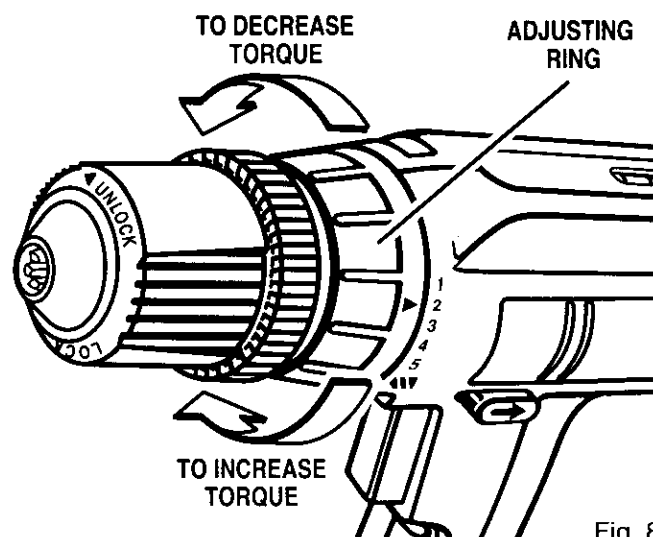

Fig. 8
- Identify the six torque indicator settings located on the front of your drill. See Figure 8.